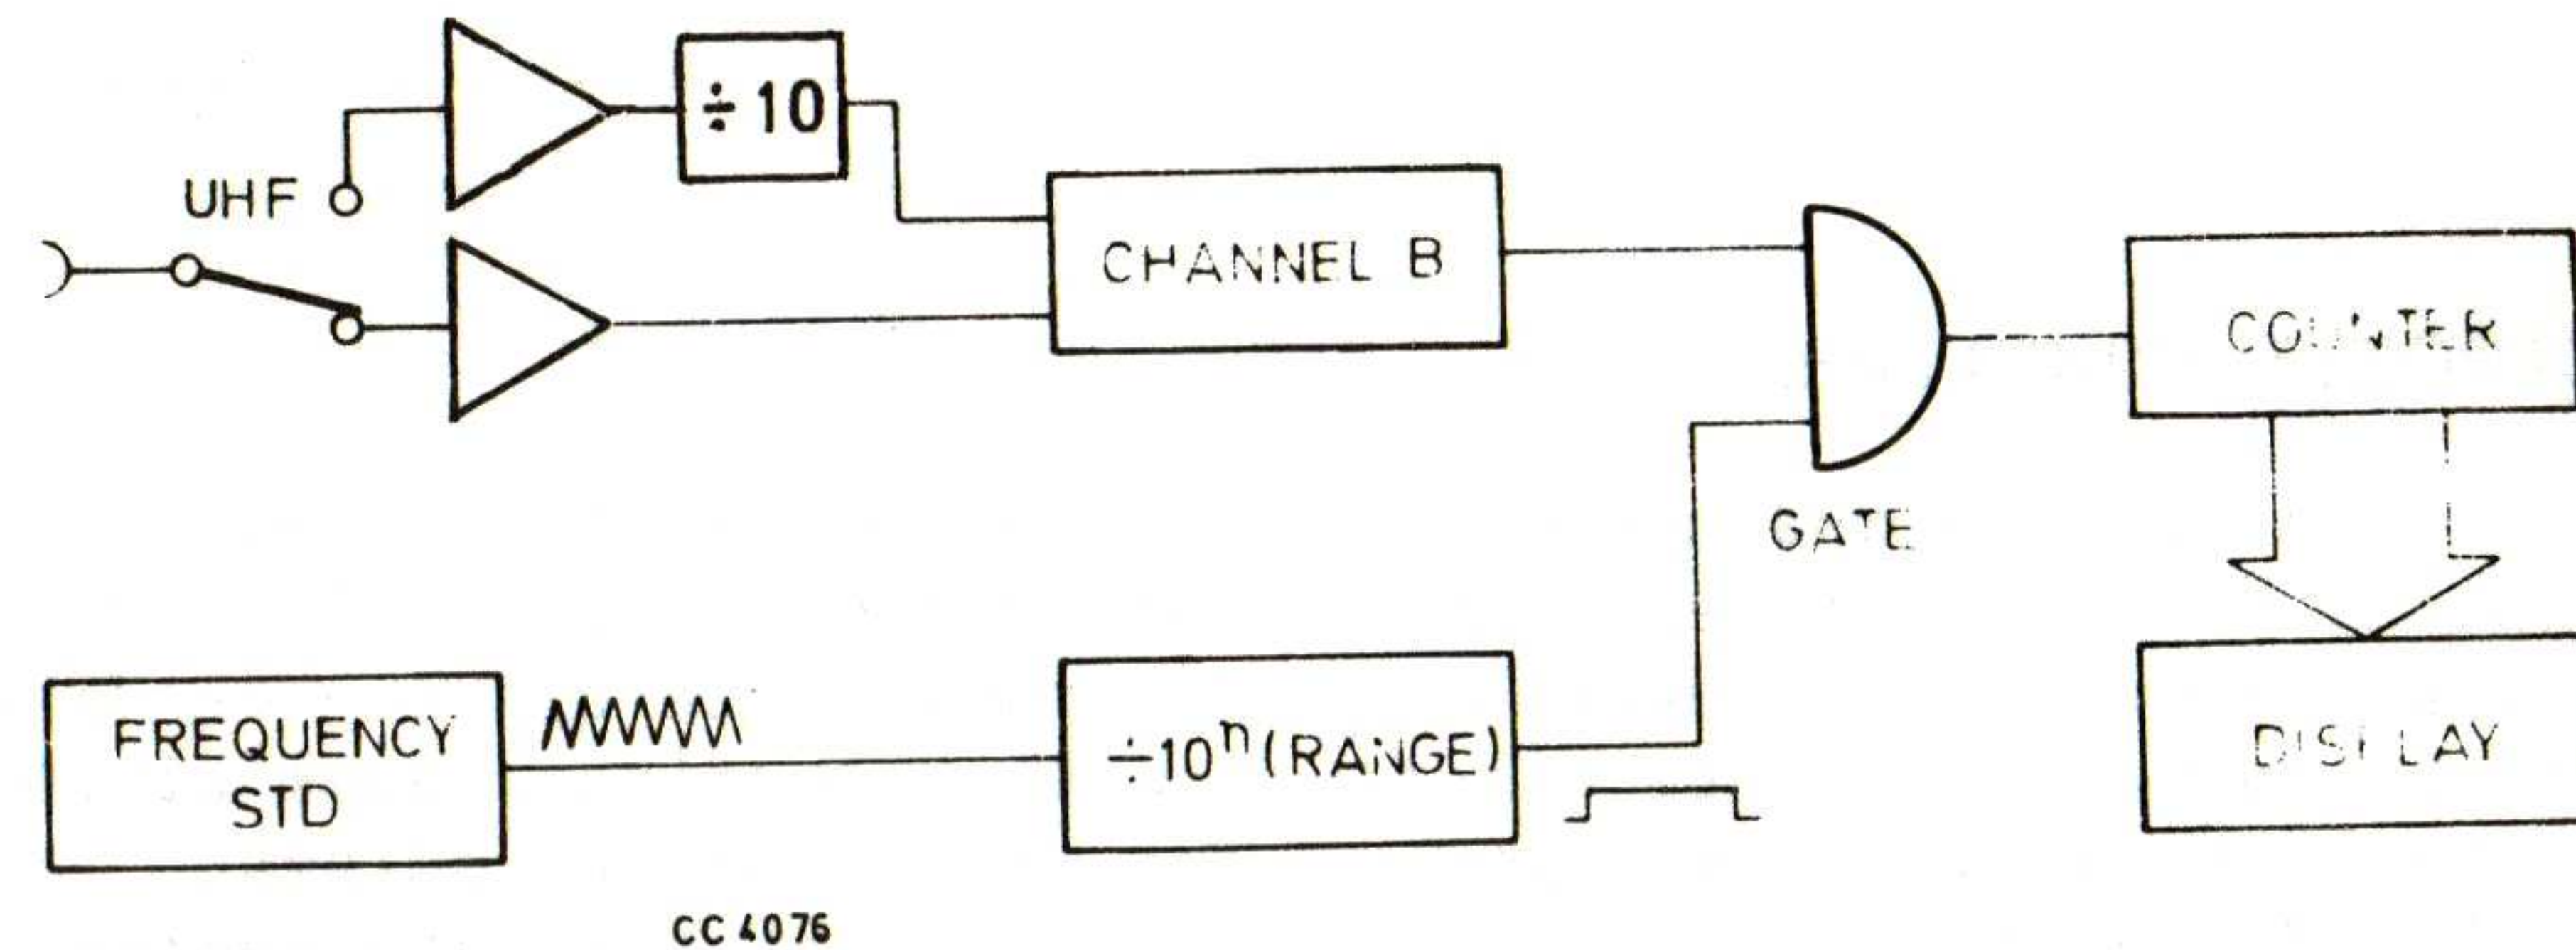

Fig. 2 FREQ B mode
3. 2438 acts as a frequency meter in the FREQ B mode, see Fig. 2. The gate is opened for an exact time taken from a sub-multiple of the frequency standard. During this time, pulses that are derived from channel B input signal are admitted to the counting stages, resulting in a reading of pulses per unit time; i.e., frequency. Range switches allow selection of other sub-multiples of the frequency standard, to give flexibility of gate time, accuracy and resolution. The input signal is routed via the u.h.f. amplifier and prescaled by ten when the frequency to be measured is between 50 MHz and 520 MHz.